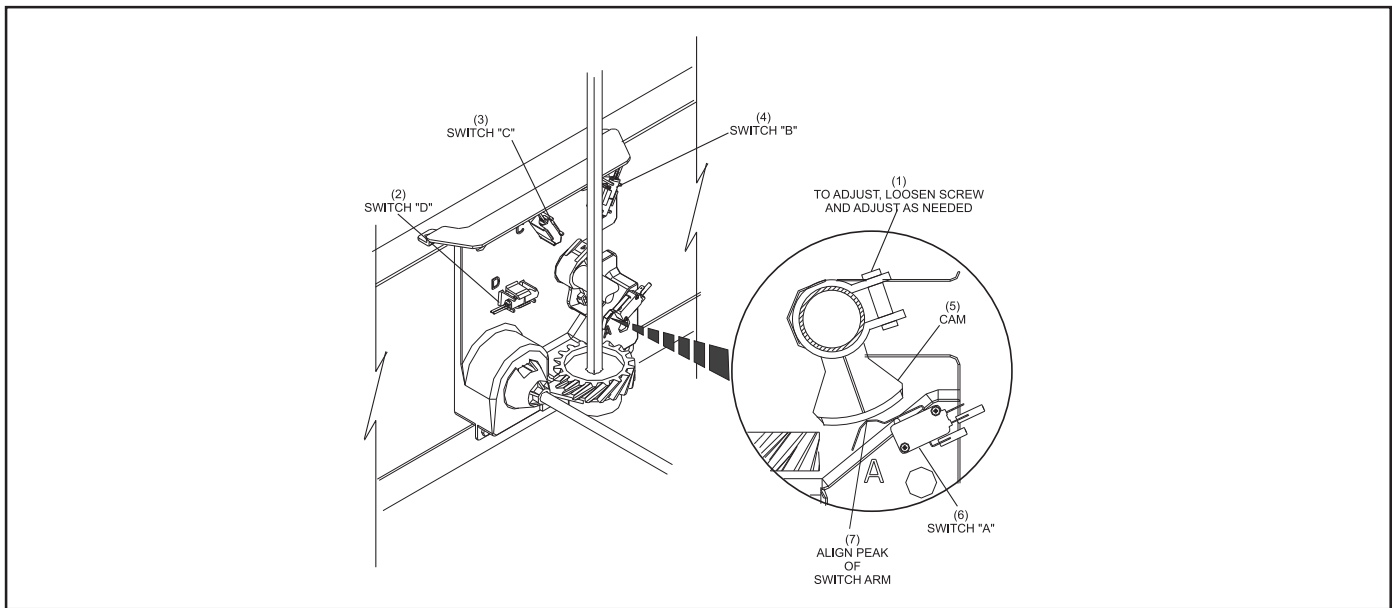

Figure 5-29. Cam Position
- b. Loosen the cam and position it so that the middle of the magnet is at the peak of the switch actuator arm. Retighten the cam. Refer to *Figure 5-29*.